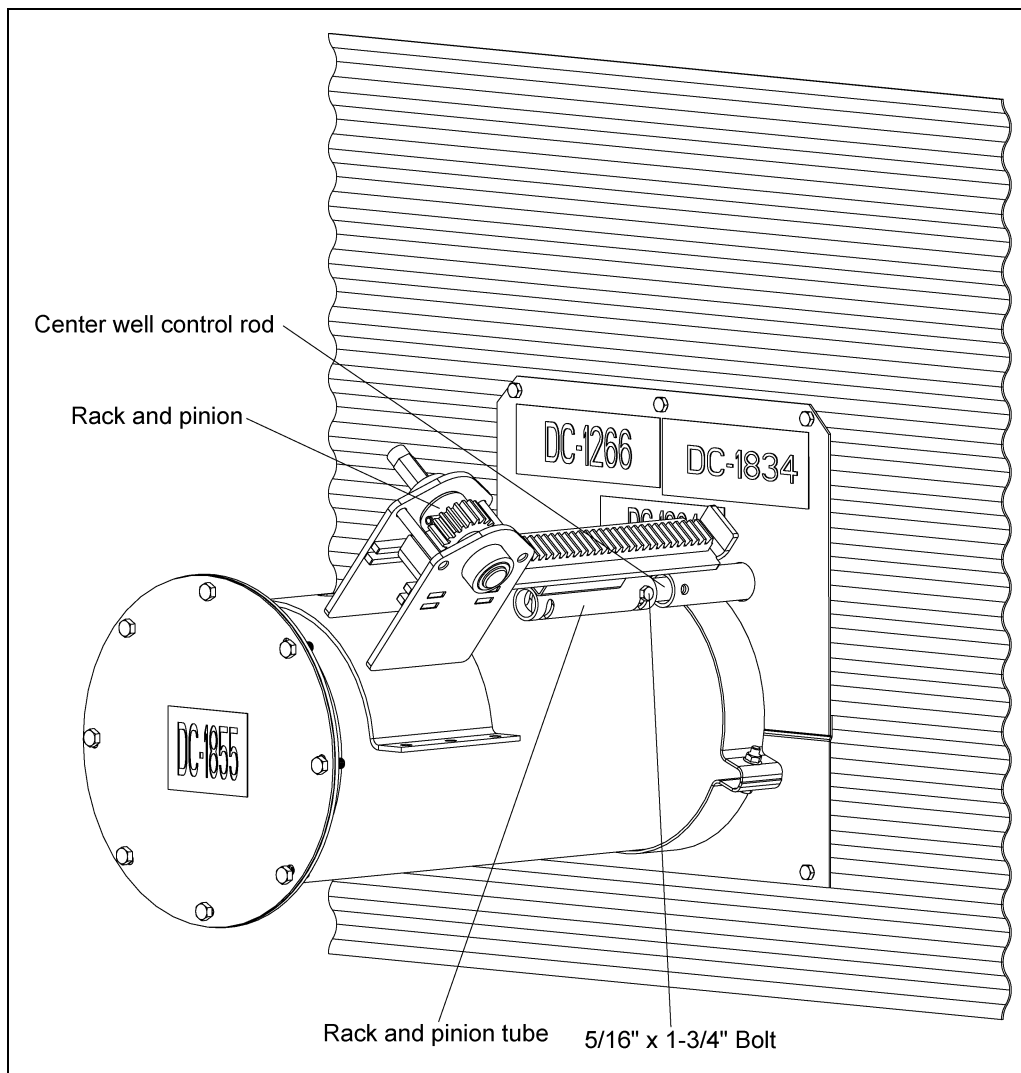

Figure 1
2. Slip rack and pinion tube over center gate control rod and align holes. Make sure rack and pinion is fully extended toward bin wall. *(See Figure 1.)*
3. With rack and pinion resting on unload tube and with tube holes aligned, insert one 5/16" x 1-3/4" bolt through the rack and pinion tube and center gate control rod. Fasten together with a nut. *(See Figure 1.)*